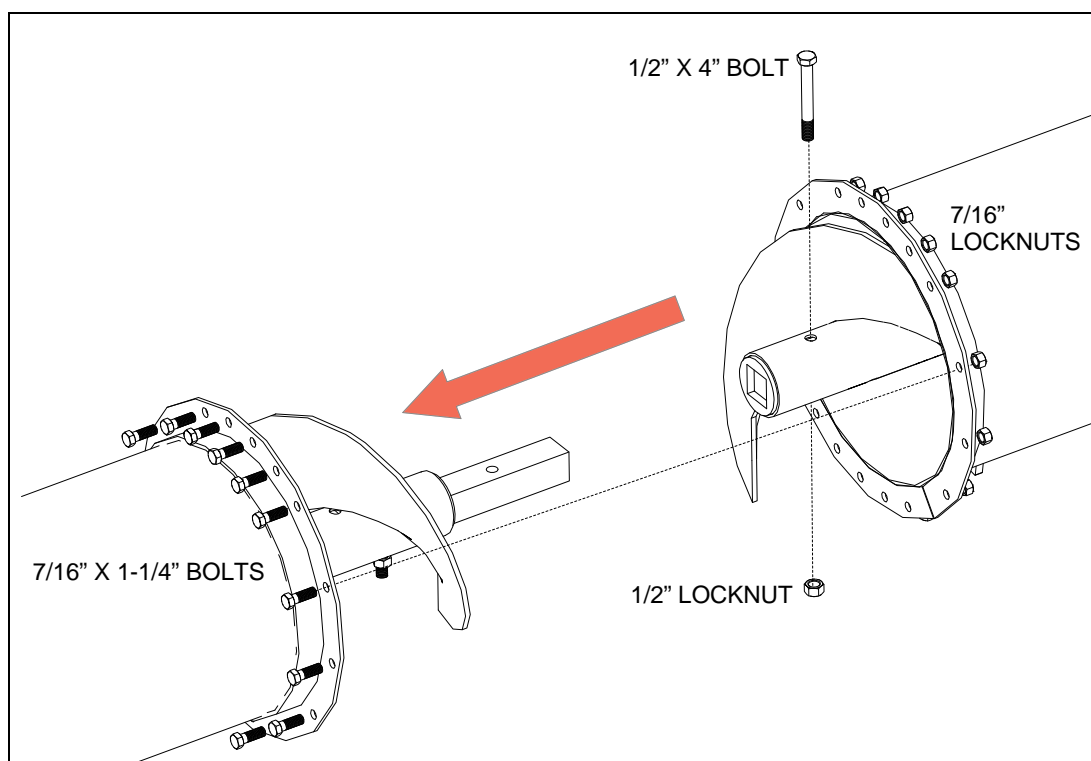

Figure 3.4 Connecting Auger Tubes and Flights
2. Working from the spout end (upper tube) to the discharge end (lower tube), connect the tubes together as shown in Figure 3.4, as described below: